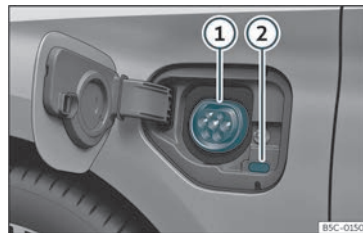

Fig. 191 Behind the battery charging cover on the front left-hand side: Charging socket
»» **Fig. 191**
- With the vehicle unlocked, the battery charging cover opens when it is pressed >>> **Fig. 191**.